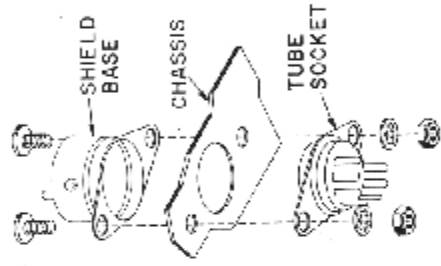
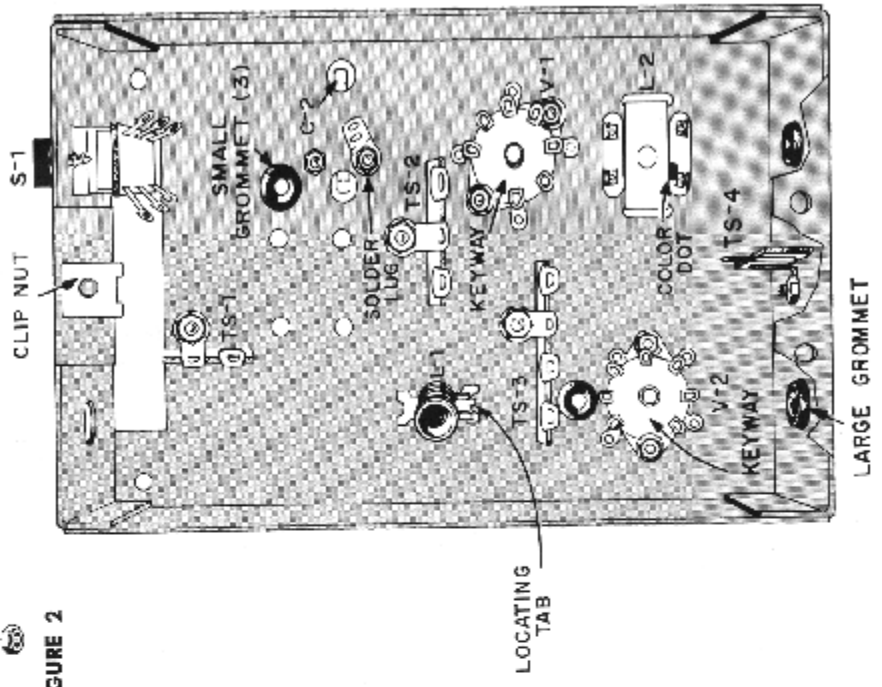

FIGURE 2
FIGURE 1
SEE FIGURE 1.
- ☑ Position the chassis in front of you as shown in Figure 1.
- ✗ V-1, 7-pin tube socket and tube shield base. Mount the shield base from the top of the chassis and the tube socket from inside the chassis as shown in Figure 2. Position the socket with the keyway (wide space between two pins) as shown in Figure 1. Use two 4-40 x 1/4" screws, lockwashers and nuts.